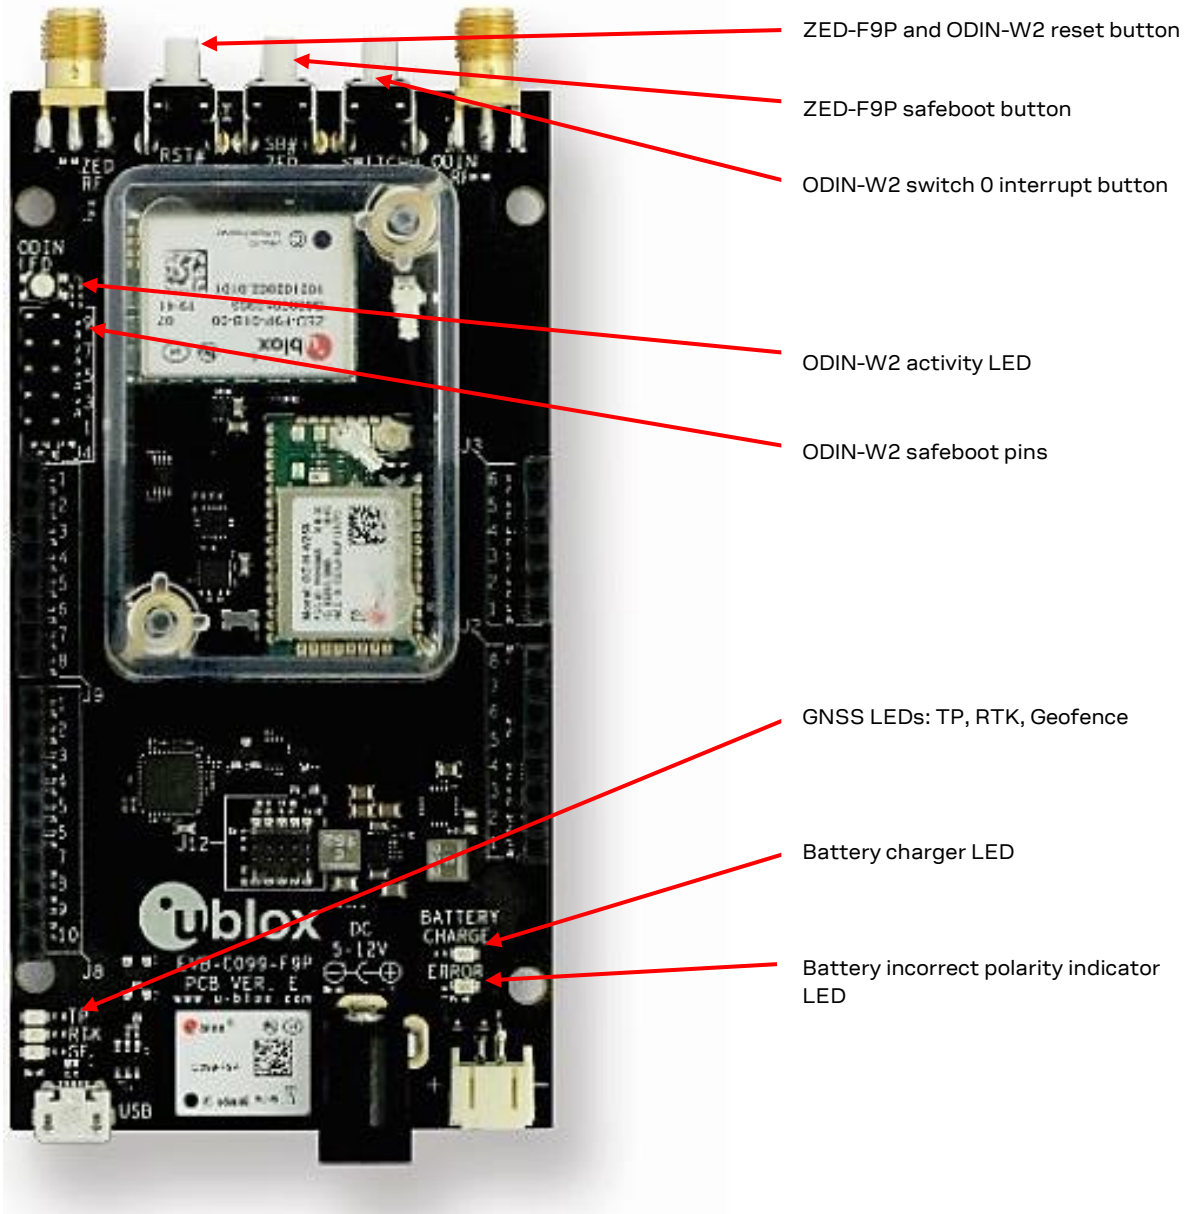

Figure 6: Switches and LEDs
- Switches and LEDs – Figure 6.
For use-case scenarios where non-wireless data link is needed the ODIN-W2 can be disabled. In order to disable the ODIN-W2, connect the safeboot jumper which forces the ODIN-W2 into safeboot mode during the device start-up. See Figure 6 to locate the safeboot pins.